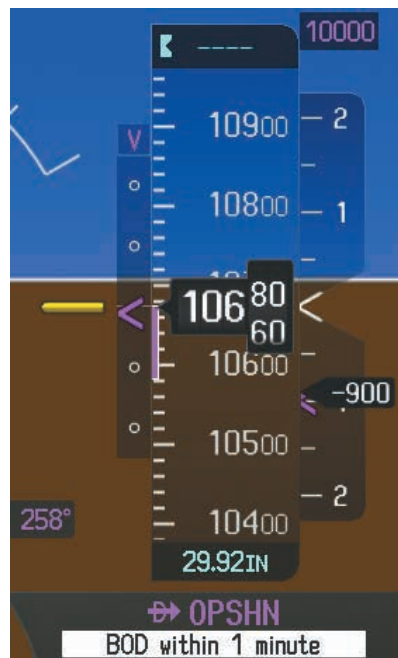

Figure 5-196 Approaching Bottom of Descent (BOD) at OPSHN Offset Waypoint
- 17) When the aircraft is one minute from the bottom of descent (BOD) it is annunciated as shown in Figure 5-196. Upon reaching the offset waypoint for OPSHN, the aircraft is at 10,000 feet.